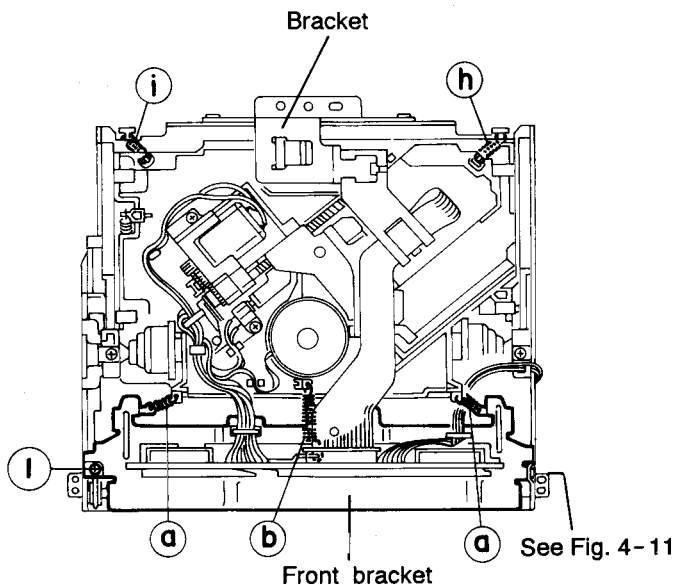

Fig. 4-10
5. Remove the three springs ③ and ⑤ from behind the CD mechanism assembly (See Fig. 4-10).
7. Remove the two screws ① retaining the front bracket for fixing the CD mechanism control P. C. board (See Fig. 4-10, 12).
2. While shifting the fix plates on the right and left sides respectively to the arrow direction, lower the entire CD mechanism. When the shafts (Ⓐ, Ⓑ, Ⓒ and Ⓓ) on both the right and left sides have been set free as shown in Figs. 4-17 and 4-18, then the assembly can be removed easily. Remove the two screws ⑤ retaining the rear damper bracket to make it easier to remove the damper from the rear damper bracket (See Figs. 4-10, 4-17 and 4-18).
3. Remove the two springs Ⓗ and Ⓘ as shown in Fig. 4-10, 16.